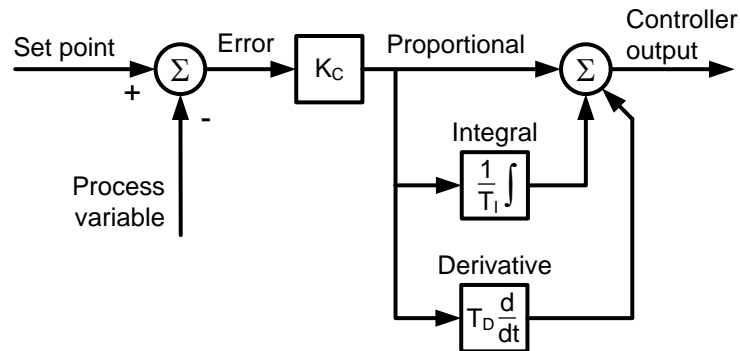

Figure 2: PID Control Using the Noninteractive Control Algorithm
The PID Controller provides real-time closed-loop control of industrial processes and equipment by comparing process output and setpoint values. The chosen PID algorithm then minimizes this error by adjusting the proportional (P), Integral (I), and Derivative (D) terms over time until the desired operating point is reached. The controller then maintains stable process operation over setpoint changes and process variations. The Noninteractive Control Algorithm is shown in Figure 2 and control algorithms are detailed in Section 7.2.